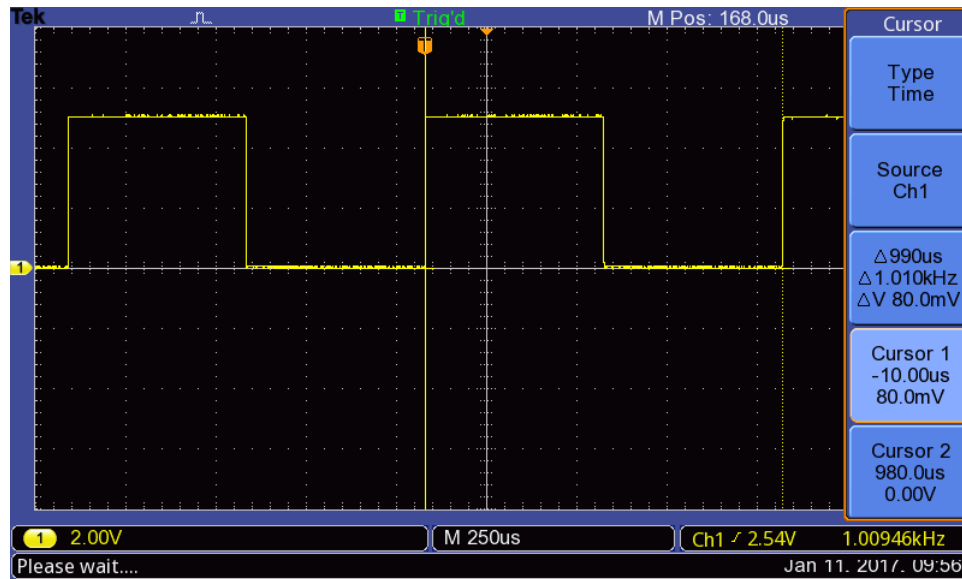

Figure 7
4. Selecting *Time* will display new softkeys on the menu. Ensure the *Source* softkey is on the channel you wish to measure. Press *Cursor 1* and use the **Multipurpose** wheel to move the cursor to the start of the signal your interested in. Press *Cursor 2* and use the **Multipurpose** wheel to move the cursor to the stopping point of the signal your interested in. The middle softkey will show you the difference in Time between the two cursors. See **Figure 7**.